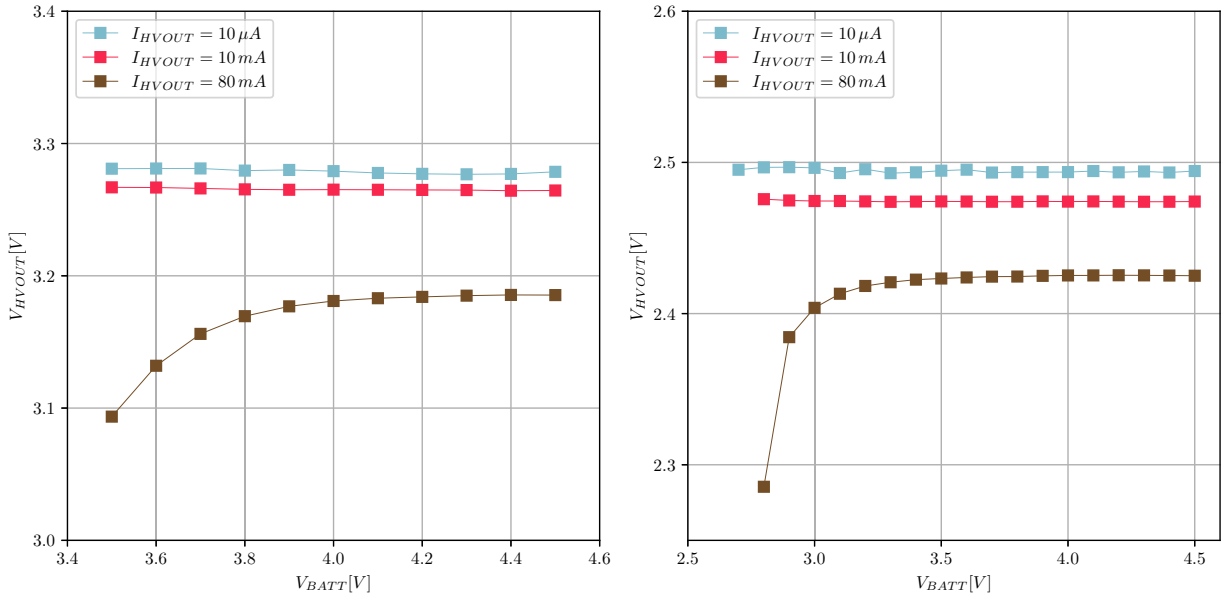
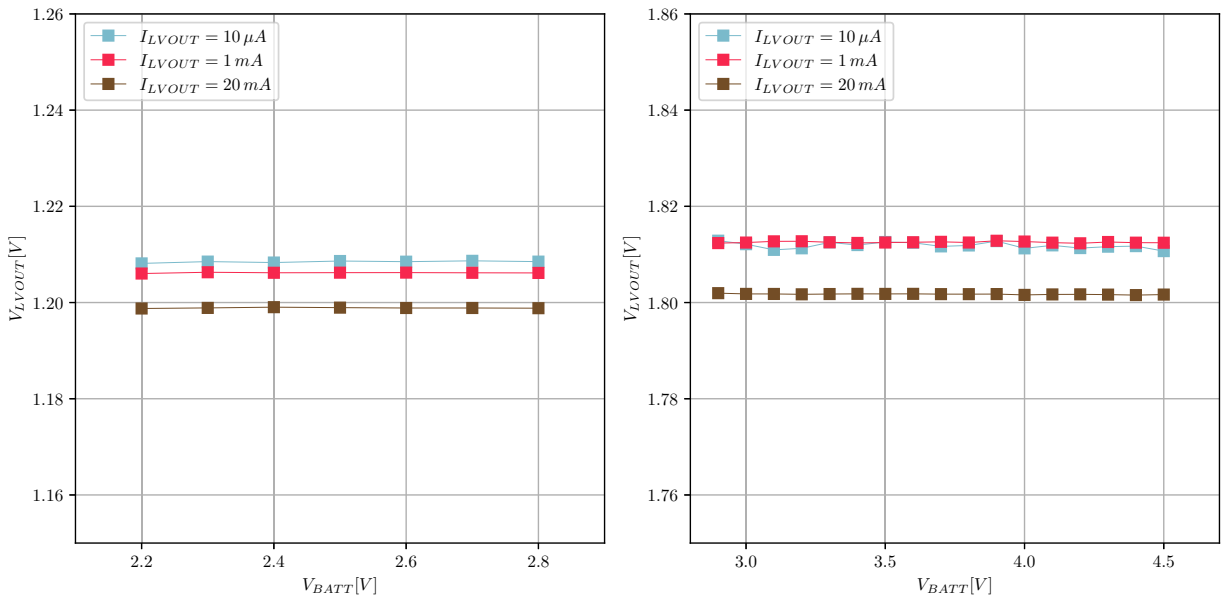

Figure 9: HVOUT at 3.3 V and 2.5 V
Figure 10: LVOUT at 1.2 V and 1.8 V
- **HVOUT/LVOUT**: measure the voltage (results shown on Figure 9 and Figure 10).